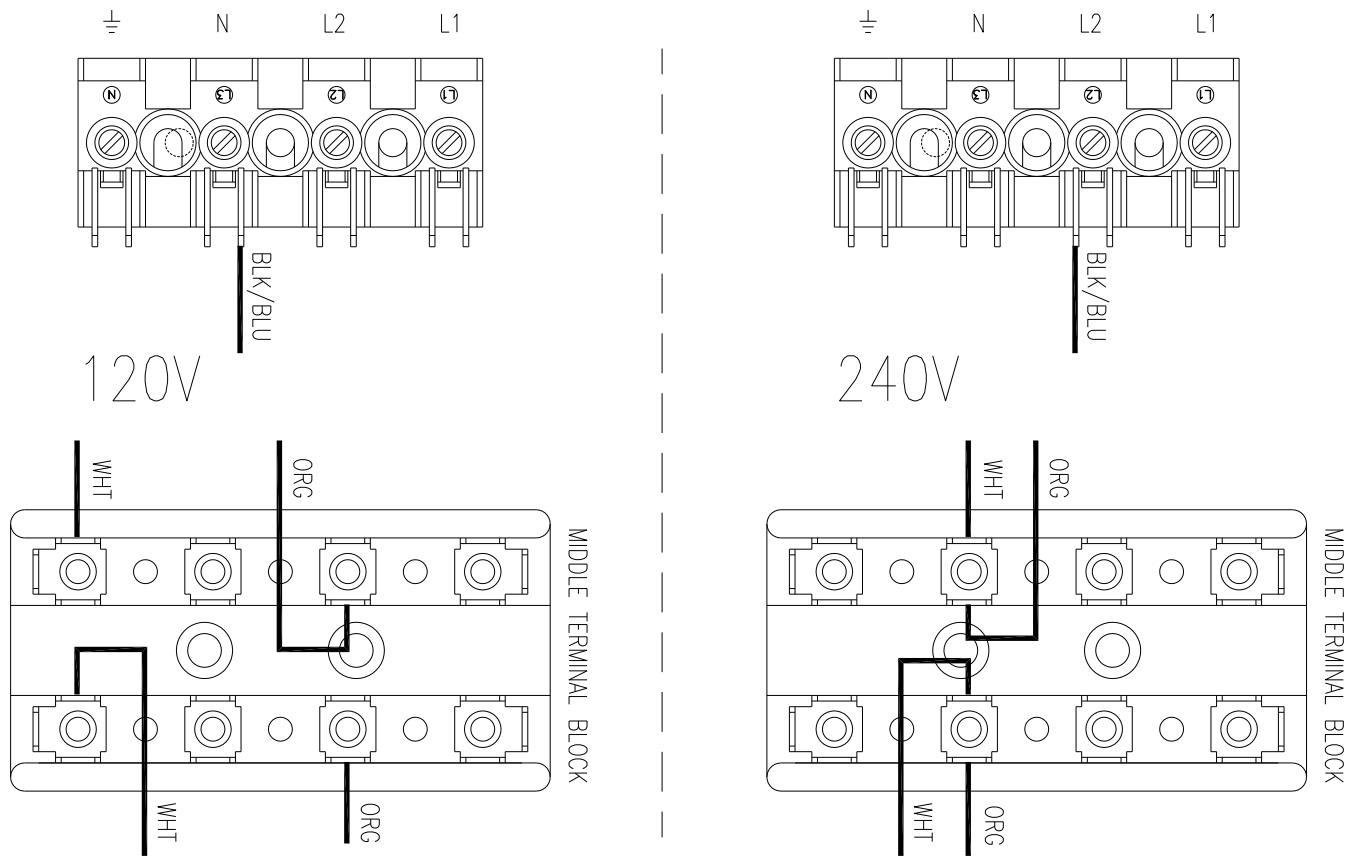

Figure 6 - Dual Voltage Stack Dryer Voltage Conversion
3. Move the black/blue wire from the N position of the main power terminal block to the L2 position of the main power terminal block in the control box assembly. See Figure 6 below.
4. Move the white wire of the upper motor harness to an upper inner left terminal in the middle terminal block in the control box assembly. See Figure 6 below.
5. Move the orange wire of the upper motor harness to an upper inner left terminal in the middle terminal block control box assembly. See Figure 6 below.
6. Move the white wire of the lower motor harness to a lower inner left terminal in the middle terminal block in the control box assembly. See Figure 6 below.
7. Move the orange wire of the lower motor harness to a lower inner left terminal in the middle terminal block control box assembly. See Figure 6 below.